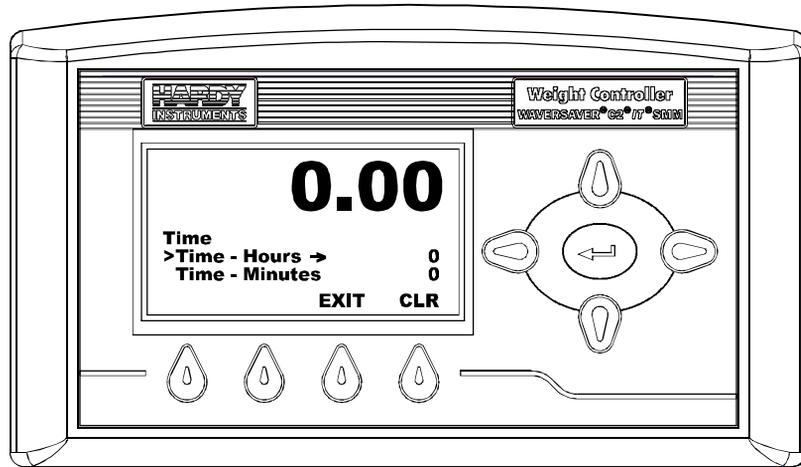

FIG. 104 TIME MENU/SELECTING HOURS
- Step 15. Press the Down arrow button until the cursor is in front of Time - Hours. (See Fig. 104) The present hour in 24 hour format is displayed.